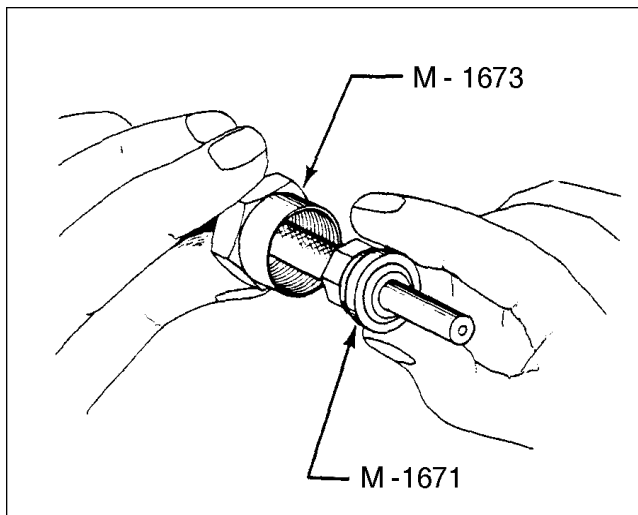

Figure 8-25. Installation of Plug End Nut
g. On spark plug end of wire install M-1673 Nut followed by M-1671 Female Taper Hex Ferrule. Refer to Figure 8-25.